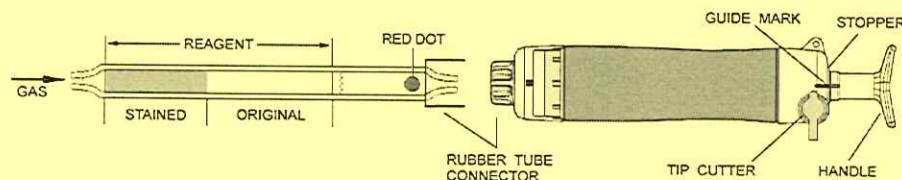

Fig.1
- ② Insert the end of the detector tube marked with red dot into the aspirating pump securely as shown in Fig.1.
- ③ Align the guide marks on the shaft and stopper of the aspirating pump.
- ④ Pull the pump handle at a full stroke until it locks and wait for 2 minutes or until the completion of sampling is confirmed with the flow indicator of the pump. (See descriptions about the flow indicator in the instruction manual of the pump.)
- ⑤ On completion of sampling, remove the detector tube from the pump. Align the zero end of the detecting reagent (inlet side of the tube) with the "0-0" line on the concentration chart and the other end with the "X-X" line respectively. Read the concentration at the top of the maximum point of the stained layer against the scale on the chart.